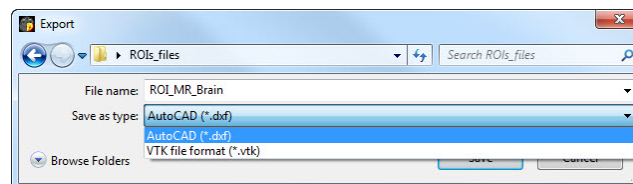

Figure 228 – Export dialog
2. Select the desired file format, the file name and the target folder in the displayed **Export** dialog (see Figure 228).